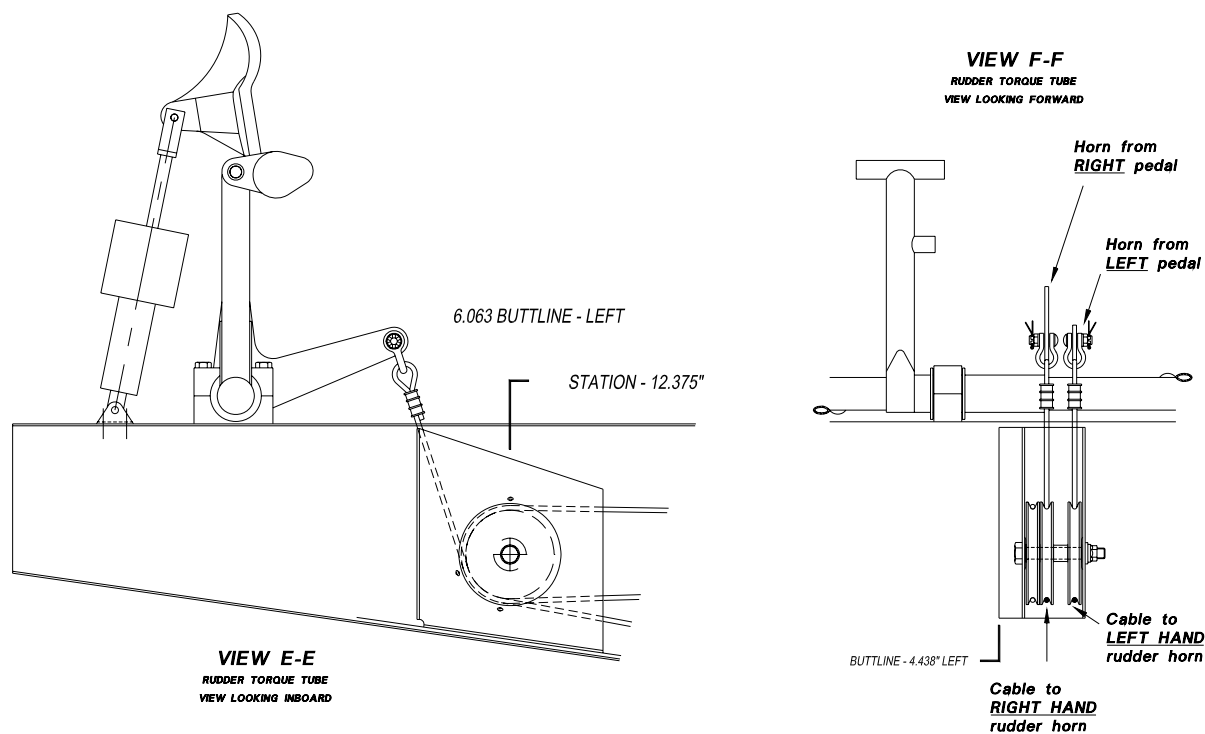

Figure 27-8 Rudder Circuit Details
*Individual rudder cables run from the respective rudder pedal horn to the rudder horn on the **OPPOSITE** side, as shown in Figure 27-8 View F-F. The cables cross over under the floor starting at the rudder pedal horns as side by side cables, travelling through the fairleads under the cabin floor that are vertically displaced and completing the cross over by the pulleys under the luggage area floor.*